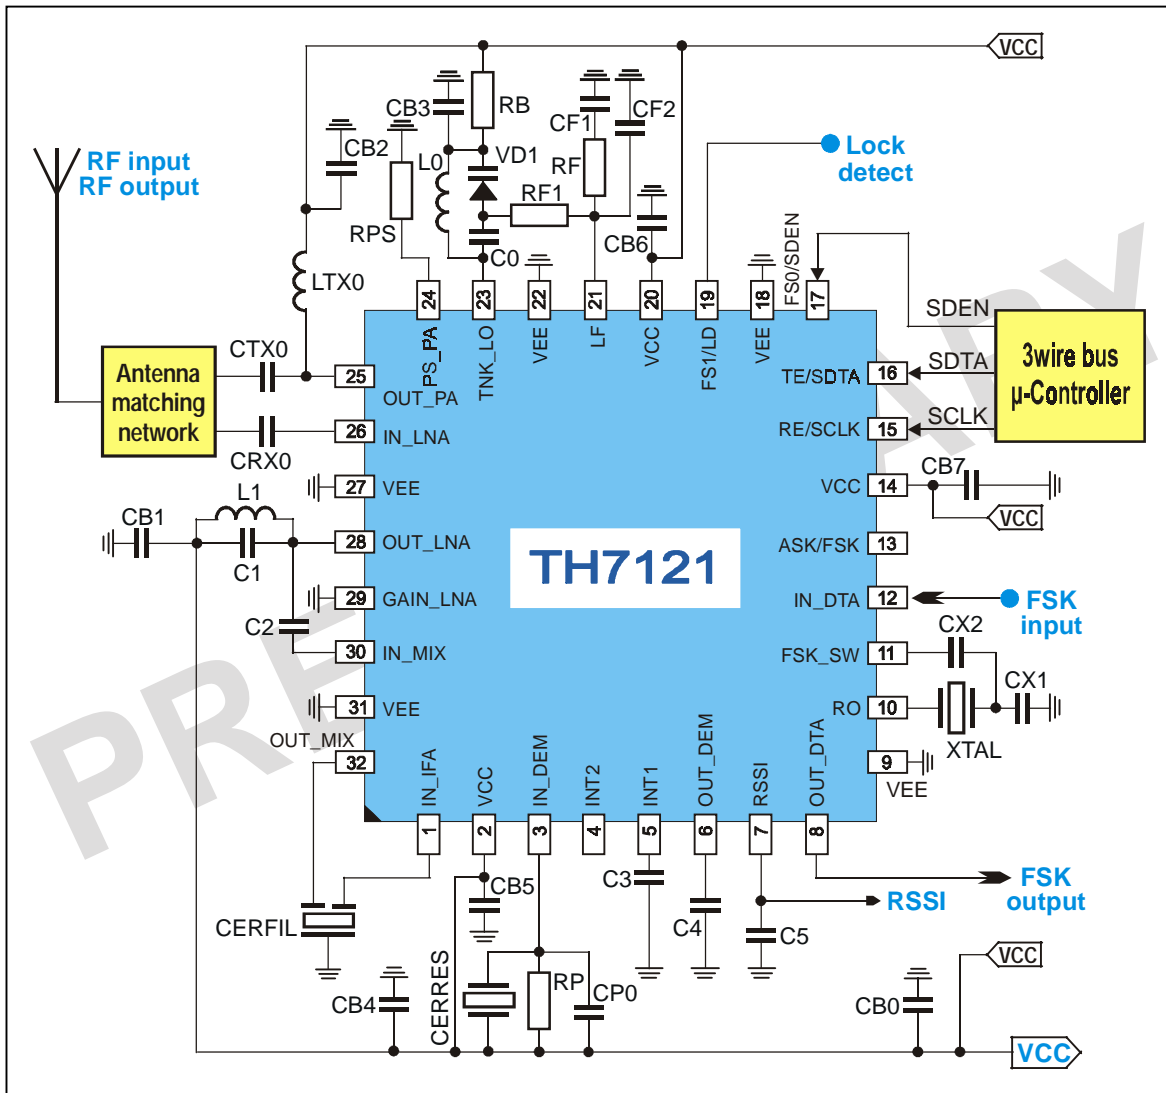
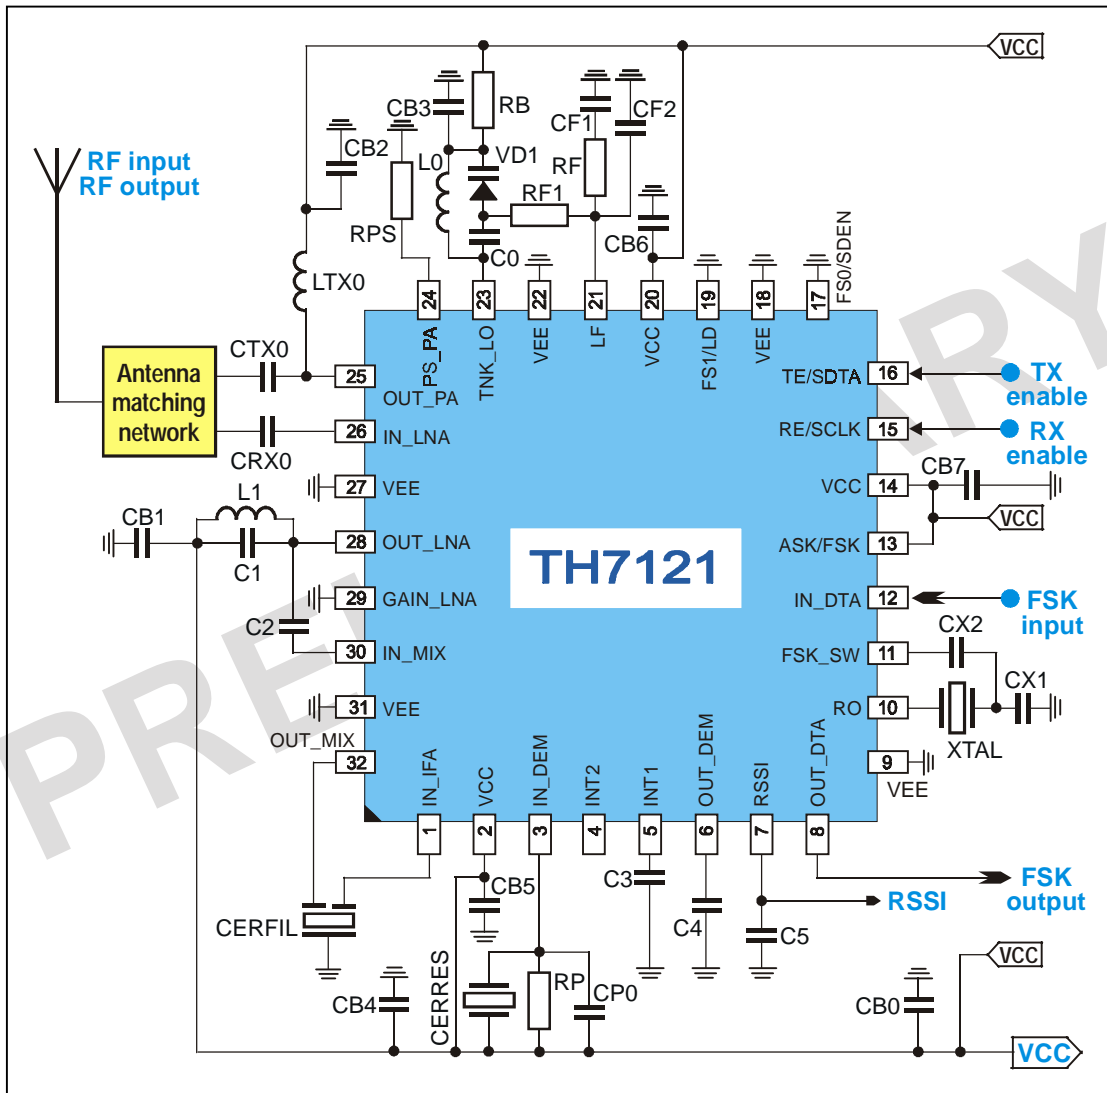
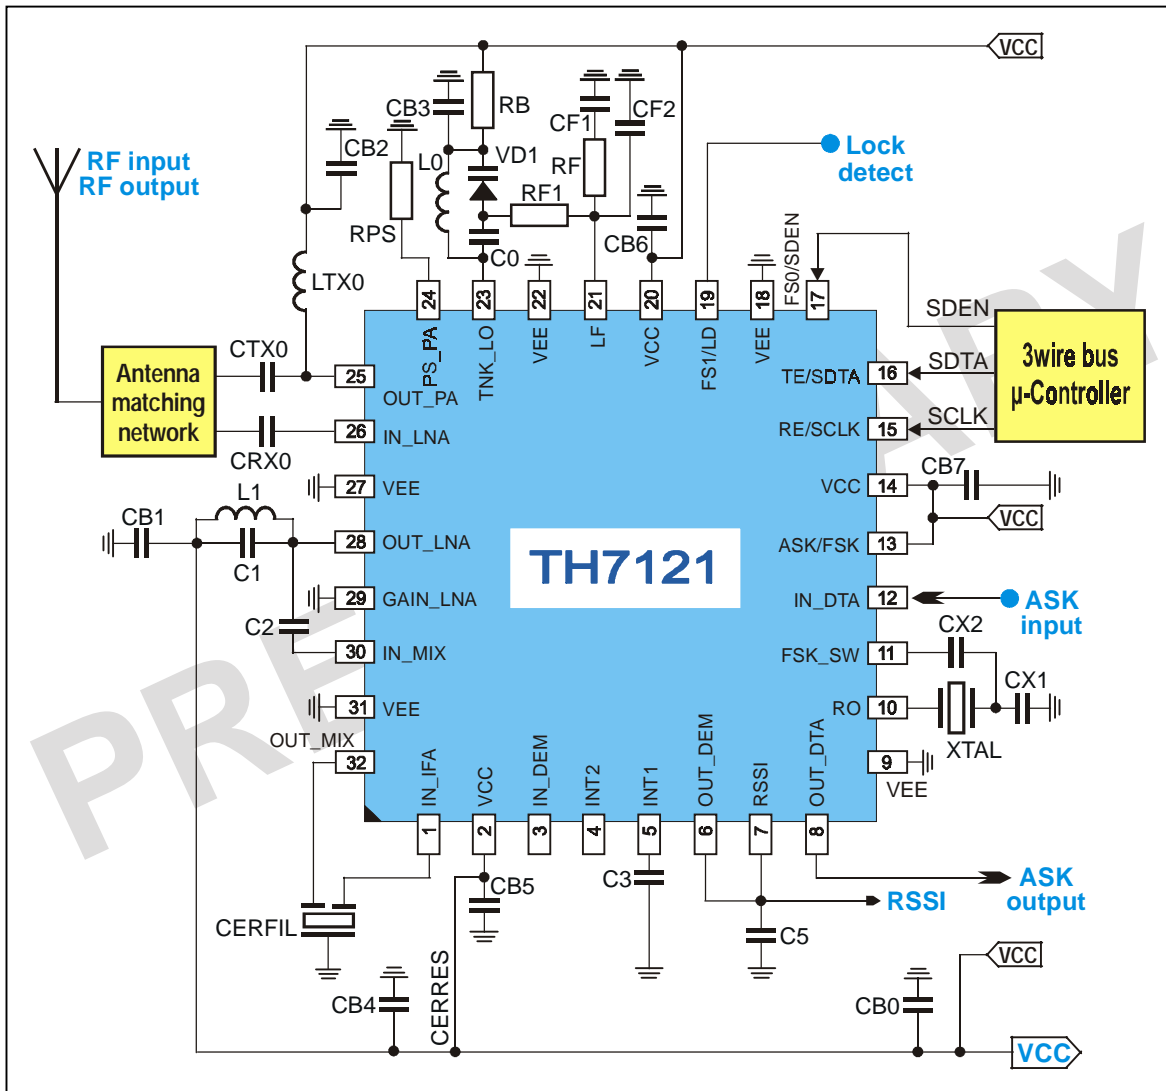
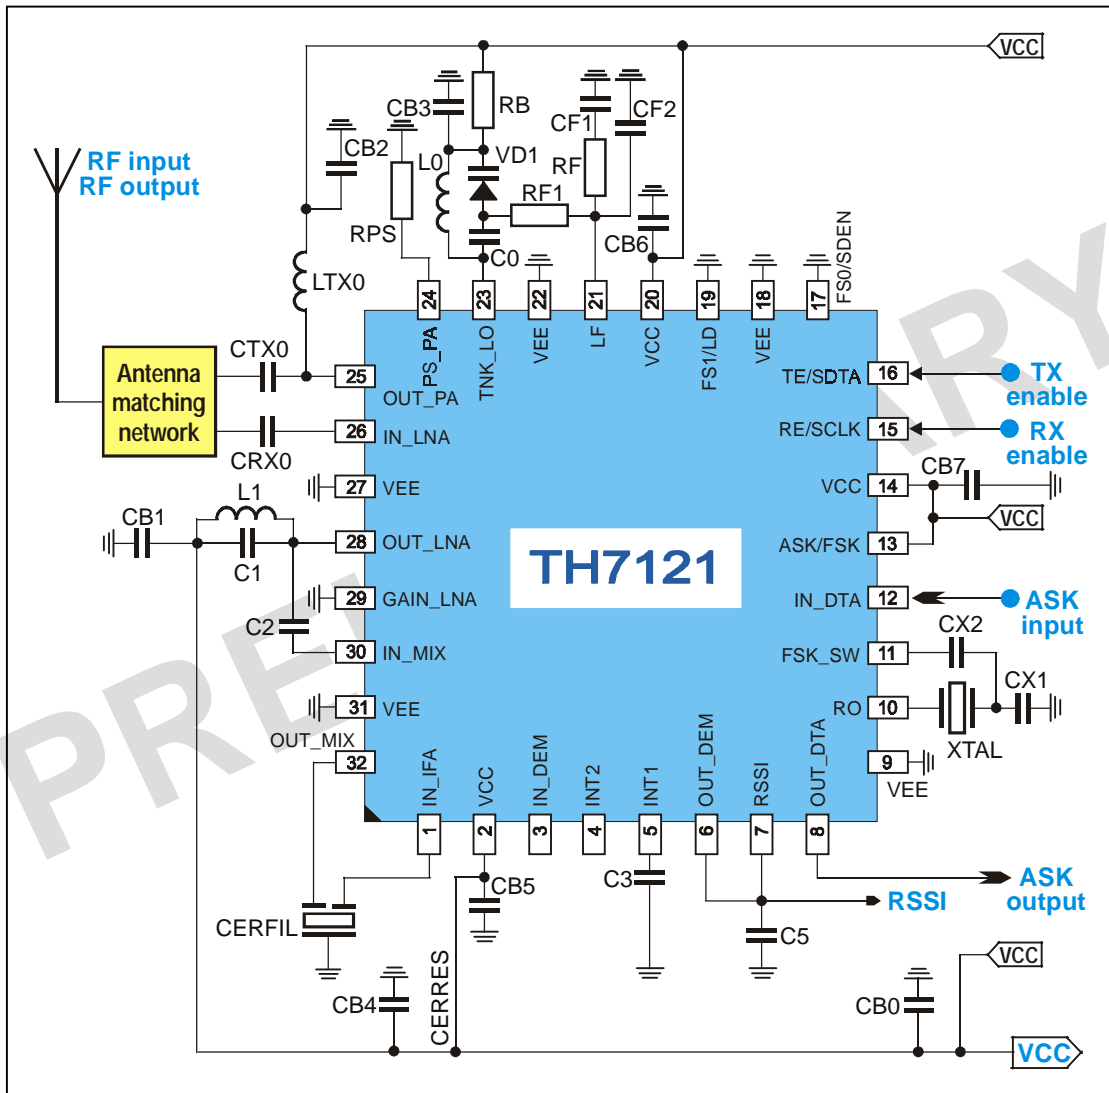

Figure 4: Test circuit for programmable channel FSK operation
Figure 5: Test circuit for fixed-frequency FSK operation at 868 MHz
Figure 6: Test circuit for programmable channel ASK operation
Figure 7: Test circuit for fixed-frequency ASK operation at 868 MHz
all parameters under normal operating conditions, unless otherwise stated; all parameters based on test circuits for FSK (Fig. 4 to 5), FM and ASK (Fig. 6 to 7), respectively; RF at 868.3 MHz
TE/SDTA=1, RE/SCLK=0, ASK/FSK=1, RPS $\geq$ 15 k $\Omega$ ,  $f_c = 868.3 \text{ MHz}$ , test circuit shown in Fig. 4 to 7
**FSK test circuit component list to Fig. 4 and Fig. 5**
**ASK test circuit component list to Fig. 6 and Fig. 7**